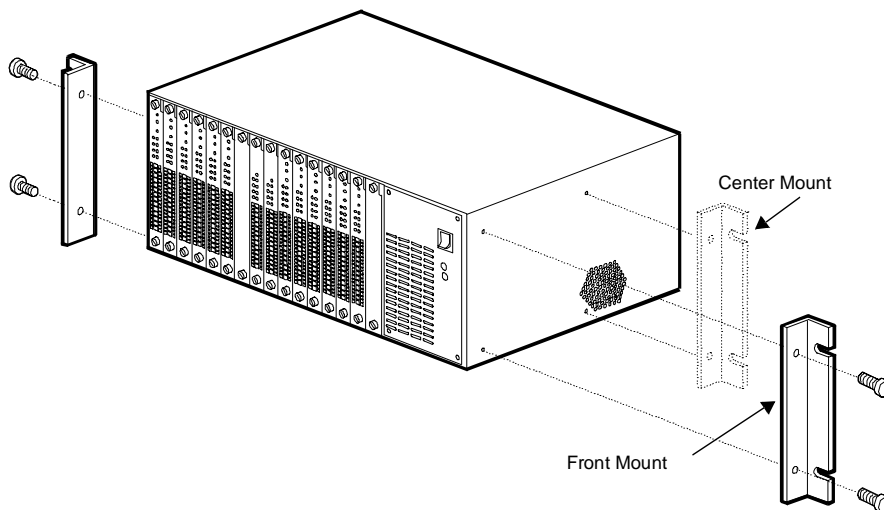

Figure 2-1. Attaching Rack Mount Extender Brackets
2. Position the rack mount extender brackets over one of the two sets of threaded holes on the right of the chassis, depending on whether you will center or front mount the chassis in the rack. Refer to Figure 2-1.